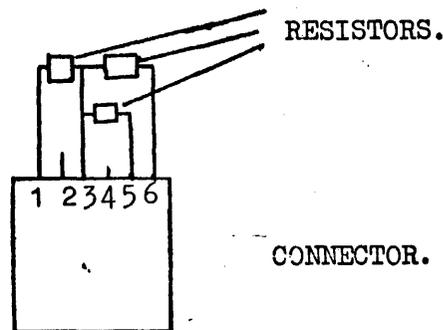

Figure 1.
- 3) Assemble the resistors and the terminals into the connector as shown in Fig. 1.